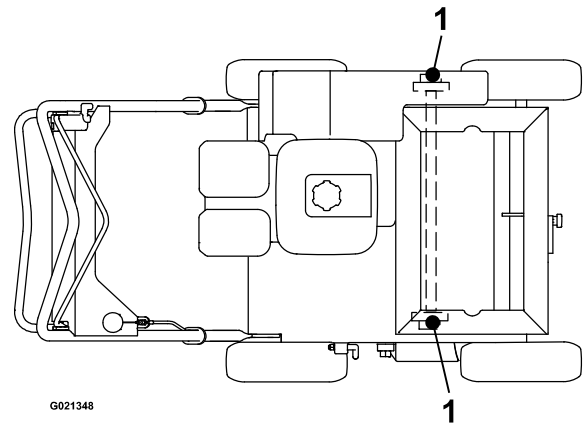

Figure 18
3. Lubricate the fittings (Figure 18) with 1 or 2 pumps of NLGI grade #2 multi-purpose grease.